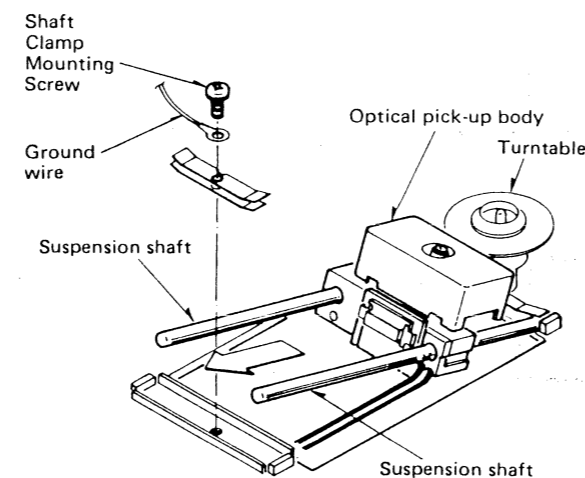

Fig: 2-3. Top view of traverse deck
10. Remove the shaft clamp mounting screw as shown in figure 2-3.
11. Remove the two suspension shafts by lifting and pulling to the left. Optical pick-up body can be separated from the deck as shown in figure 2-3.